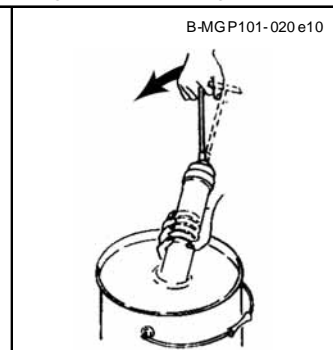

Fig. 4-7 Engaging
- 3. Pull back the follower rod together with the follower piston by means of the hand lever from the press reservoir to that extent that the nut in the follower rod becomes visible and engages in the notch of the reservoir's closure cap (Fig. 4-7).